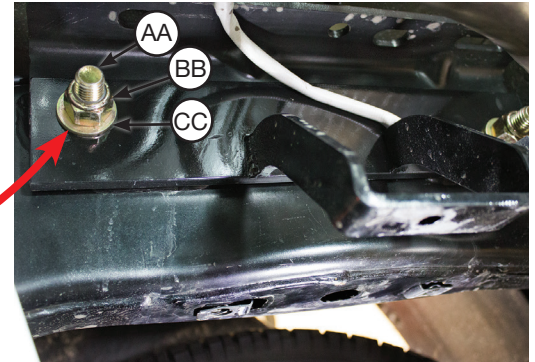

fig. D.28
2. Some models come equipped with a factory fifth-wheel bracket. It will be necessary to remove the hardware from these holes if the vehicle has this bracket. Find the two holes located under the upper frame brace. Attach the upper frame brace using the included 5/8" hex cap screws (AA), nuts (BB) and washers (CC) (Fig. D.28).